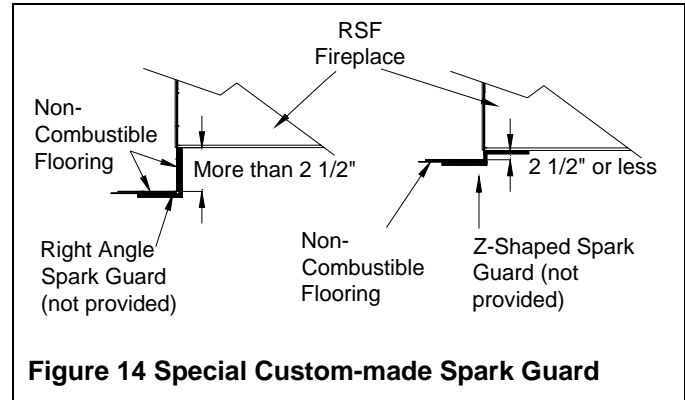

Figure 14 Special Custom-made Spark Guard
If you are preparing a raised installation, you will need a custom made spark guard, either a "Z" shaped spark guard or a right angle spark guard (see Figure 14). The Z-shaped spark guard must be used if the height between the bottom of the fireplace and the top of the non-combustible flooring of the hearth extension is less than or equal to 2½". The height of the Z-shaped spark guard must equal the distance between the floor and the base of the unit and go under the hearth extension and the fireplace by at least 2½". If the unit is installed higher than 2½" from the top of the flooring, a right angle spark guard is necessary. The sides of the right angle spark guard should be at least 2½" x 2½" and must be covered with non-combustible material. Any custom made spark guard must have the minimum width specified in Table 1 (I), and be installed centered on the door opening.